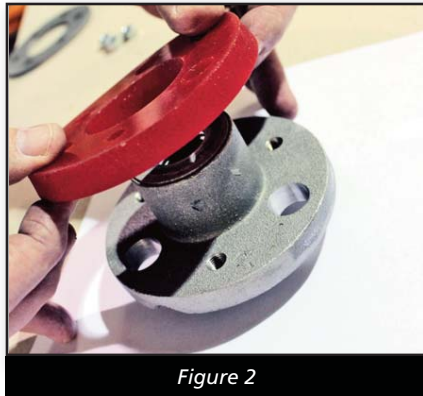

Figure 2
- **POLY RINGS:** Place one of the poly rings on the hub orienting the large holes over the large holes in the hub (See figure 2).